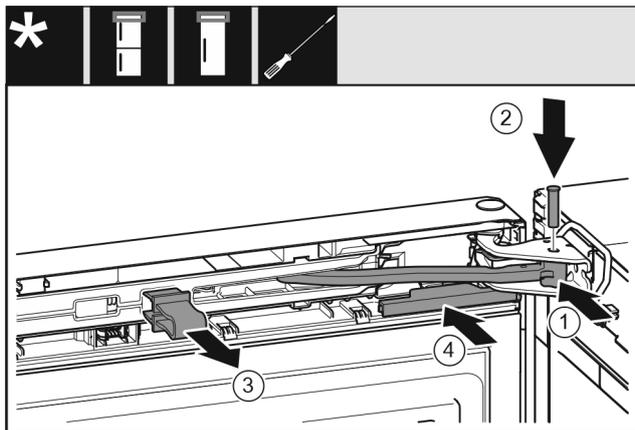

Fig. 21
- ▶ Turn the hinge in the bearing bracket. Fig. 21 (1)
- ▶ Insert the bolt in the bearing bracket and hinge. Make sure that the latching lug is sitting correctly in the groove. Fig. 21 (2)
- ▶ Remove the locking device. Fig. 21 (3)
- ▶ Slide on the cover. Fig. 21 (4)